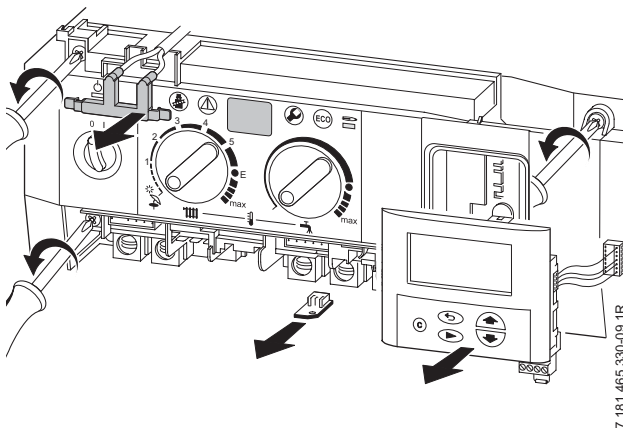

Fig. 54
- ▶ Remove two top fixing screws from the control box. Refer to fig. 54.